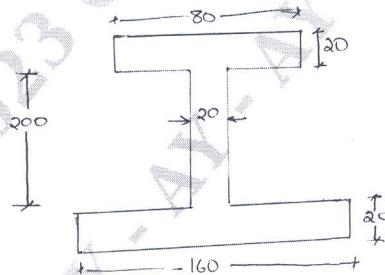

Fig.Q6(b)
b. The unsymmetrical I-section shown in Fig.Q6(b) is subjected to a shear force of 40kN. Draw the shear stress variation diagram across the depth.